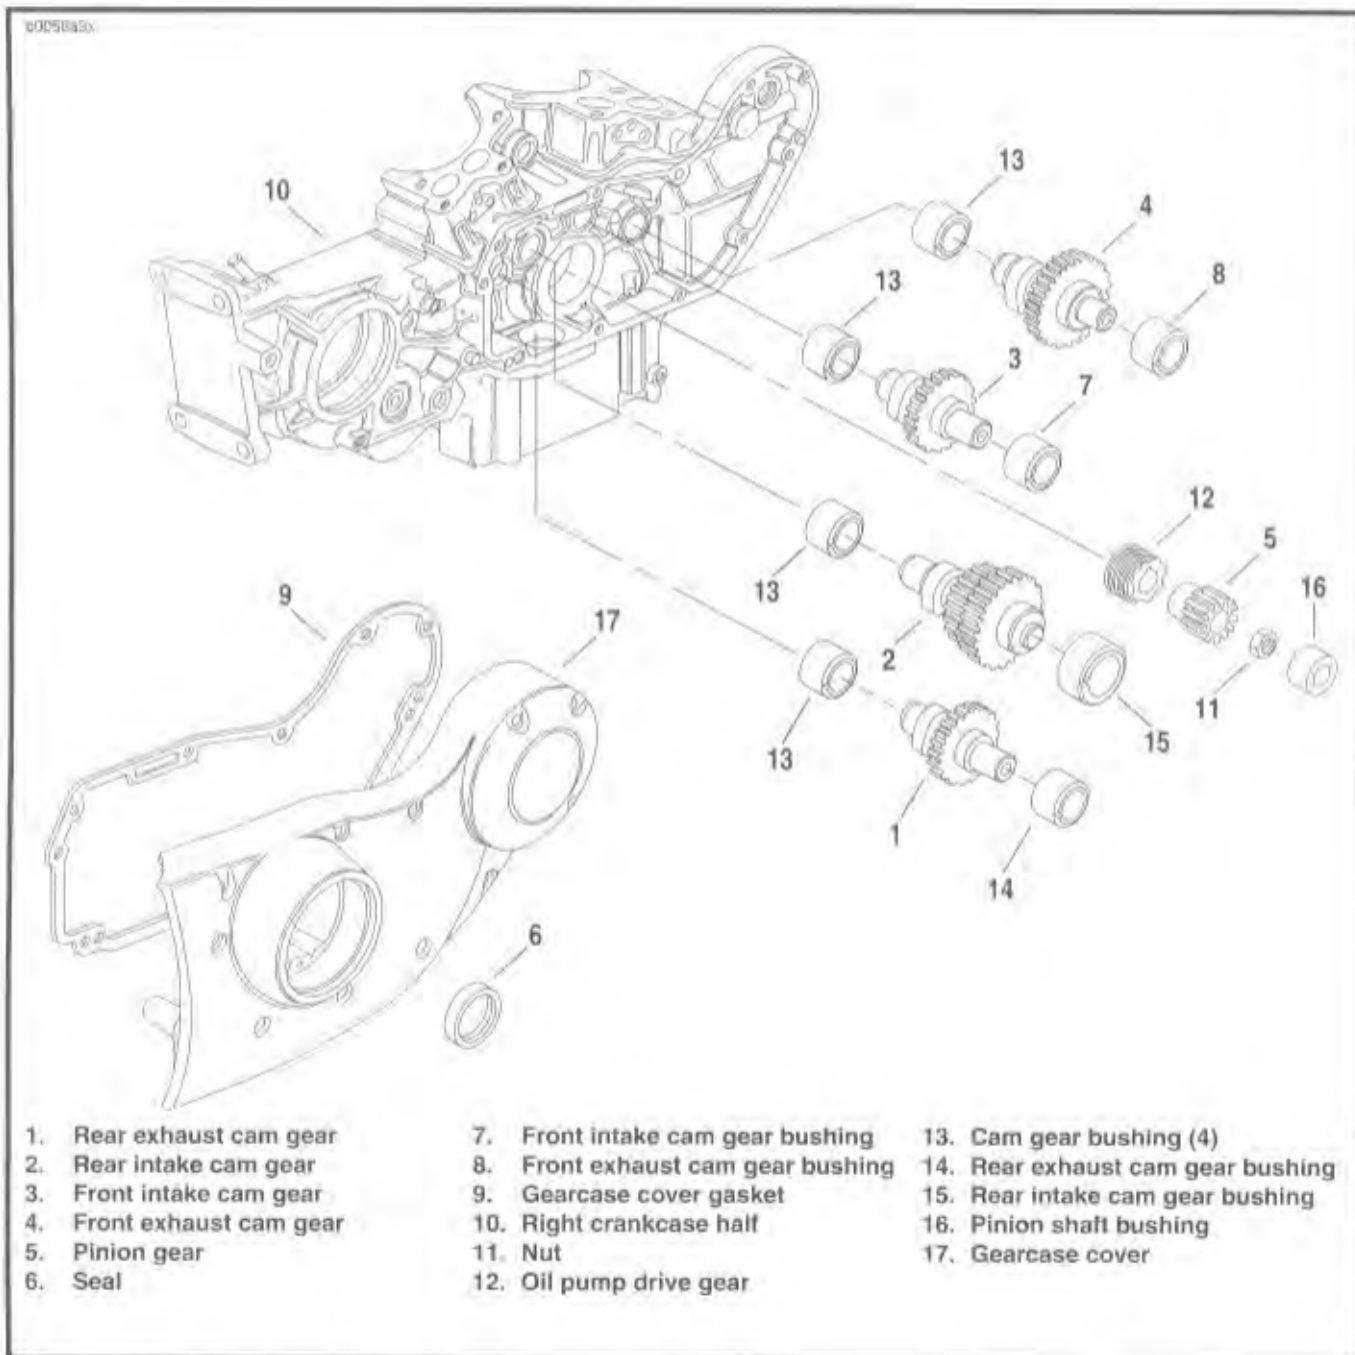

Figure 3-59. Gearcase and Valve Train Components
(Figure 3-59)
1. See Figure 3-59. Bushings (7, 8, 13, 14, 15, and 16) are press fit in gearcase cover (17) and crankcase. Inspect each bushing against its corresponding cam gear shaft or pinion gear shaft.
1. See Figure 3-59. Using an arbor press, install each bushing (7, 8, and 14) in its gearcase cover (17) bore so that bushing shoulder contacts cover boss. There is no need to orient these particular bushings in any specific position of rotation within gearcase cover bores.
1. See Figure 3-59. Rear intake cam gear bushing (15) must be installed in its gearcase cover (17) bore using an arbor press. You will need to orient the bushing in a specific position of rotation within the cover bore, and will need to drill a lubrication hole in the bushing, according to the following procedures.
1. See Figure 3-59. Using an arbor press, install pinion shaft bushing (16) in its gearcase cover (17) so that bushing is flush with cover boss. There is no need to orient this particular bushing in any specific position of rotation within the gearcase cover bore.
1. See Figure 3-59. Bushings (7, 8, and 14) to be reamed must be installed in gearcase cover (17) as described in BUSHING INSTALLATION. Attach gearcase cover to right crankcase half (10), which has been disassembled from left crankcase half, securing with a minimum of three mounting screws.
2. Insert a standard 11/16-in. diameter reamer through the previously reamed cam gear bushing (13) in right crankcase half, which is in line with one of the bushings to be reamed in gearcase cover.